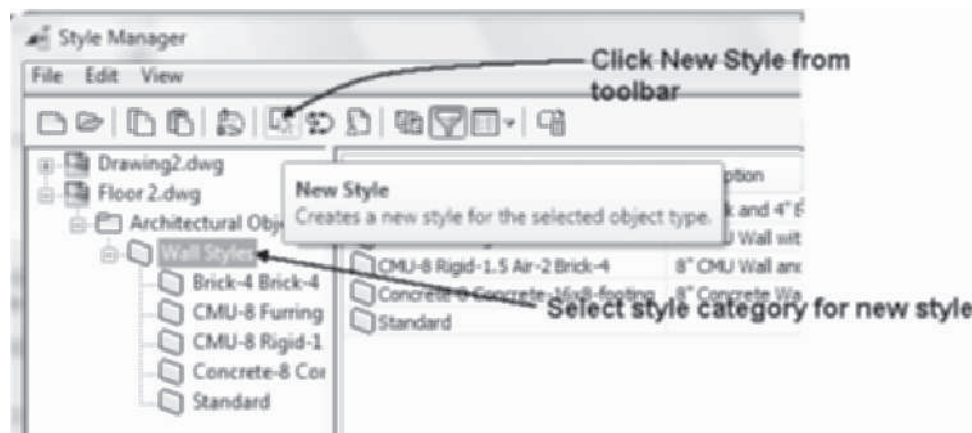
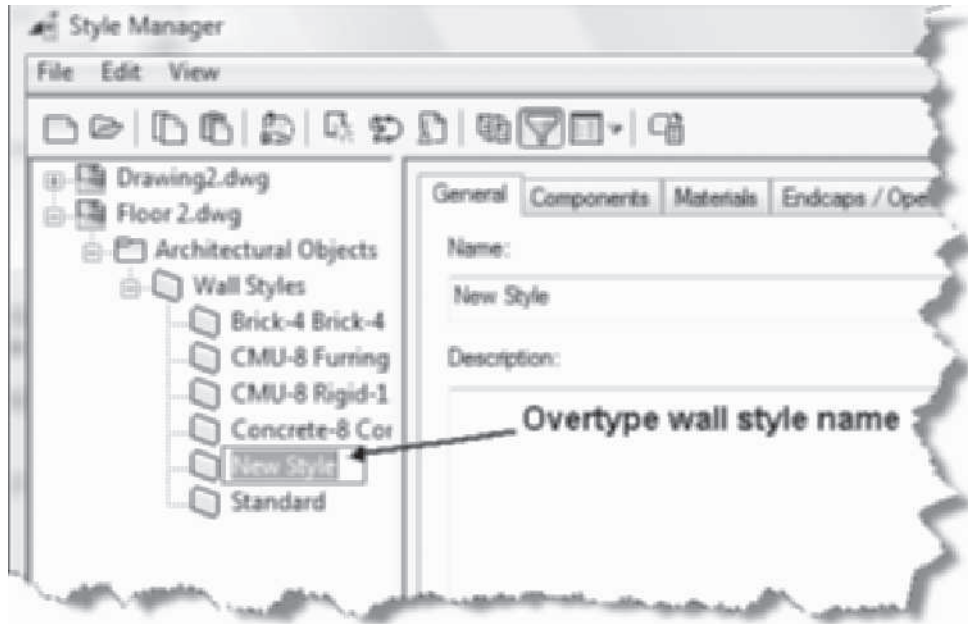

FIGURE 3.8 New Style command of the Style Manager
FIGURE 3.9 New wall style name overtyped in the left pane
The first step to create a new wall style is to establish a new name. Names for wall styles should be kept short and descriptive. Spaces are permitted in the wall style name; however, the inch symbol (") is not accepted. When you select the Wall Styles category and click the **New Style** button shown in Figure 3.8 on the Style Manager toolbar, the default name “**New Style**” is assigned and is highlighted in the left pane. You can overtype to enter a desired name. Specific properties of a wall style are defined in the Wall Style Properties pane as shown in Figure 3.9. Once a name has been created, it is listed in the style list of the left pane or tree view.
4. Click the **New Style** button in the **Style Manager** toolbar as shown in Figure 3.9.
5. Overtyping a new name in the left pane as shown in Figure 3.9.